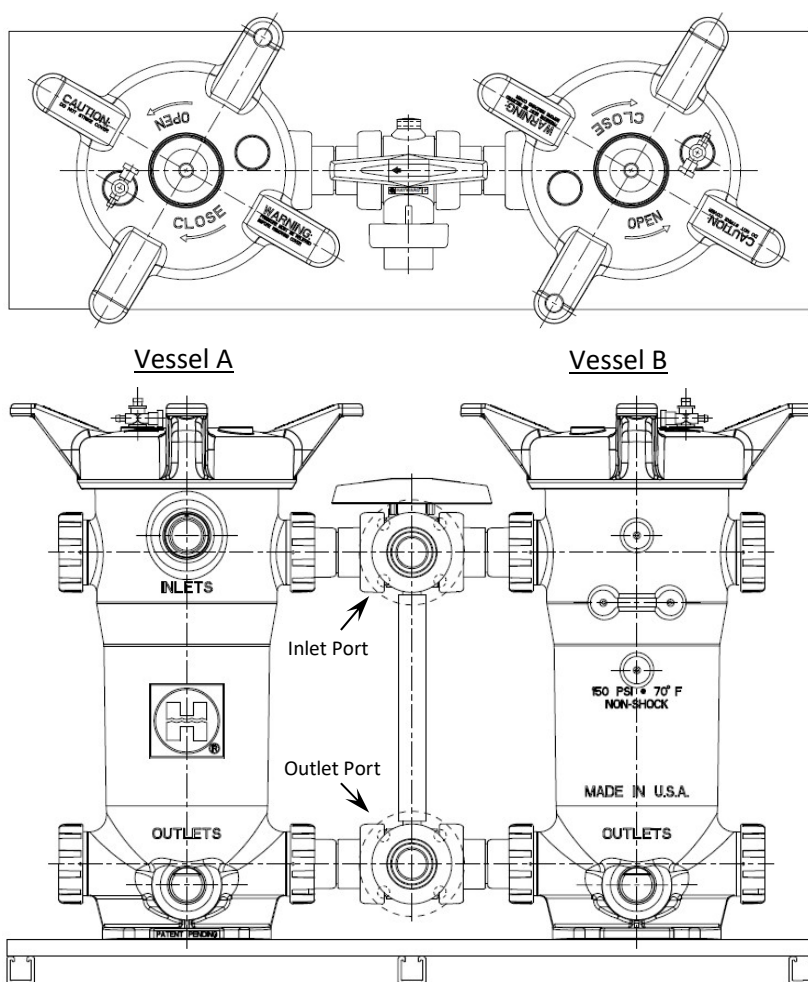

Figure 1: FLV Series Duplex Filter Assembly
The Hayward FLV Series GFPP Duplex Filter should be stored inside factory packaging until product is ready to be installed. The Duplex Filter should be moved as close to the installation site as possible prior to removing from packaging. The Duplex Filter is shipped as an assembly and is mounted to a fiberglass grate, or skid, and should be moved using a pallet jack, or forklift (See Figure 1).
Hayward FLV Series GFPP Duplex Filters are provided as assemblies consisting of two FLV Series GFPP Filter Vessels mounted to a common grate, and joined together by a common CPVC lateral three-way diverter valve manifold. The CPVC lateral three-way diverter valves are true union valves, and the open, front-facing, end connectors for these valves provide the two connection ports for the Duplex Filter assembly. The top valve provides a common inlet port to both vessels, while the bottom valve provides a common outlet port to both vessels. The top valve and bottom valve are connected via a tandem shaft, such that operation of the top valve also controls the bottom valve, and simultaneously opens, or closes, the inlet and outlet of each vessel. The handle of the top diverter valve controls both the top valve and the bottom valve simultaneously, and directs the flow through either Vessel A, or Vessel B, as identified in Figure 1. **The Hayward FLV Series GFPP Duplex Filter is intended to be operated with one unit "on" and one unit "off" at all times. Other than during operation of the diverter valve to switch flow from one vessel to the other, under no circumstances should the diverter valve be positioned to allow flow to both vessels at the same time.**
1.3.1.1 Units with true union end connections are equipped with one inlet port, i.e. the top port, and one outlet port, i.e. the bottom port. (See Figure 1)
Hayward FLV Series GFPP Duplex Filters are provided as assemblies consisting of two FLV Series GFPP Filter Vessels mounted to a common grate, and joined together by a common CPVC lateral three-way diverter valve manifold. The CPVC lateral three-way diverter valves are true union valves, and the open, front-facing, end connectors for these valves provide the two connection ports for the Duplex Filter Vessel assembly. The top valve provides a common inlet port to both vessels, while the bottom valve provides a common outlet port to both vessels. The top valve and bottom valve are connected via a tandem shaft, such that operation of the top valve also controls the bottom valve, and simultaneously opens, or closes, the inlet and outlet of each vessel. The handle of the top diverter valve controls both the top valve and the bottom valve simultaneously, and directs the flow through either Vessel A, or Vessel B, as identified in Figure 1.
Operating the tandem lateral three-way diverter valves too rapidly can create excess water hammer effect on the Hayward FLV Series GFPP Duplex Filter, or on one, or both, of the filter vessels that are part of this unit. Water hammer effect resulting in product failure can result in property damage, personal injury, or even death. To avoid creating excess water hammer effect in the Hayward FLV Series GFPP Duplex Filter, **ALWAYS** operate the tandem lateral three-way diverter valve "T"-handle **SLOWLY** when operating the valve, and thereby changing flow, from Vessel A, to Vessel B, or from Vessel B, to Vessel A, as defined in Figure 1 and Figure 2 of this document.